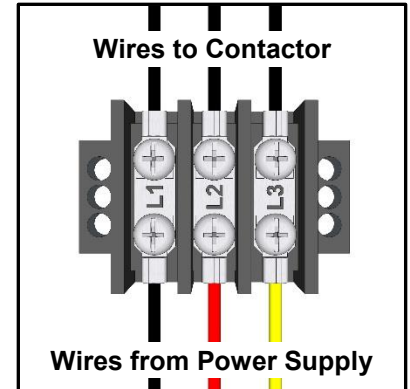

Figure 7
- 1 Have your certified electrician connect power to the 3 terminal T-bar and ground wire to grounding block. (see Figure 7)